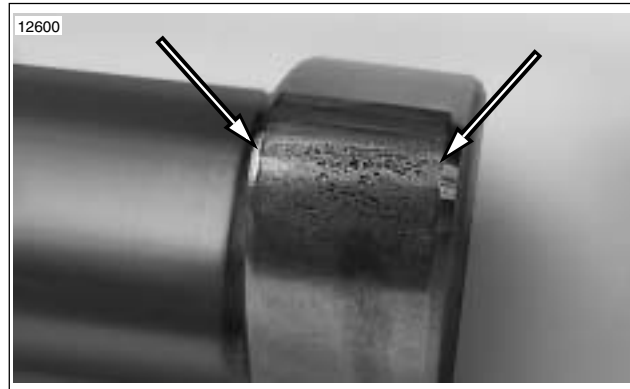

Figure 3-29. Camshaft Heel Spalling
2. See Figure 3-29. This camshaft shows spalling on the camshaft heel at an unacceptable level as the spalling extends across the entire camshaft lobe.